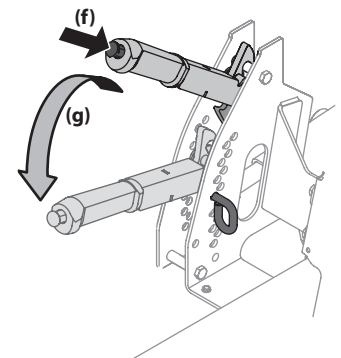

Figure 16
3. Depress the button at the end of the handle lift lever (f), raise it slightly to unhook it from the upper spacer on the deck height index bracket and carefully lower into the desired position (g). See Figure 16.